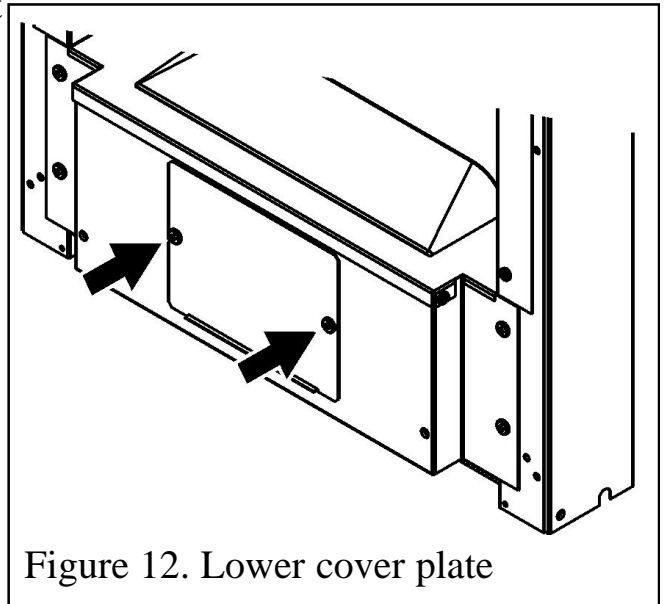

Figure 12. Lower cover plate
3. Remove the lower cover plate from the front of the heat engine. To do this remove the two screws (See figure 12).